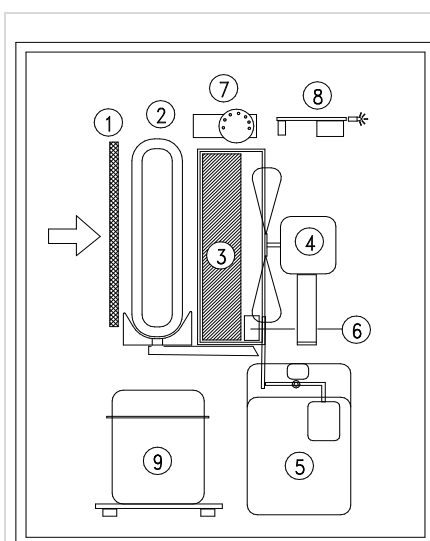

Fig. 1
With reference to the drawing (fig. 1), the air is drawn in through the back side of the dehumidifier, then it passes through the **filter (1)**, through the aluminium refrigerated coil or **evaporator (2)**, again through the heat-exchanger or **condenser (3)**. Finally, the **motor fan (4)** expels the air back into the room through the front grilled panel. The condensed water is collected in the **tank (5)**. A **micro-switch (6)** stops the machine when the water in the tank reaches the correct level by raising the water float lever. The **humidistat (7)** starts the functioning of the dehumidifier when the humidity is higher than the preset level. An **electronic circuit (8)** controls the defrosting and prevents the **compressor (9)** repeated starts within too short a time by delaying each new start.